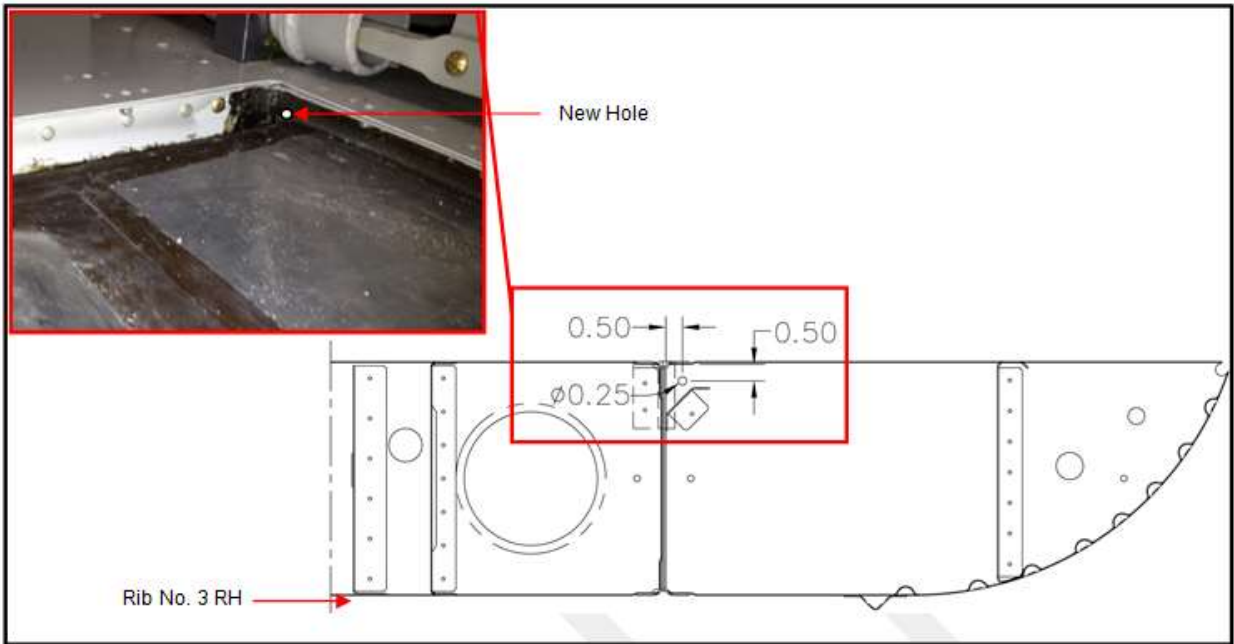

Figure 3: Hole 1 (View looking forward on Rib No. 3)
7. Gain access through sump tank access panel and drill ¼ in. hole through rib no. 3 RH (GA8-532023-253), Figure 3.